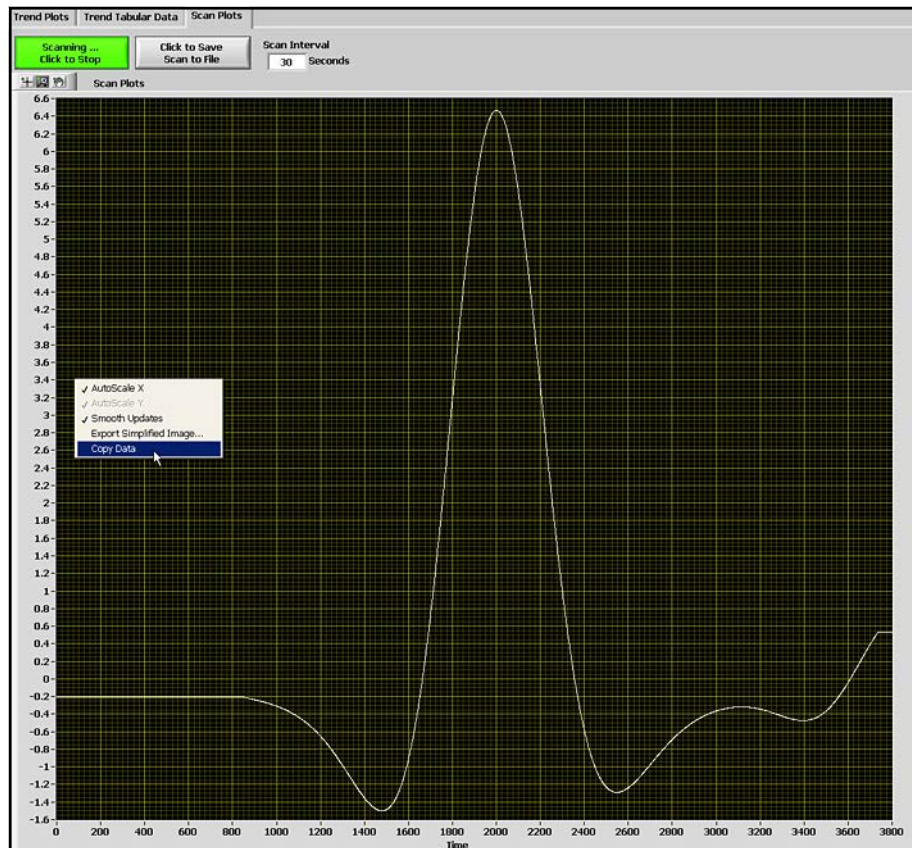
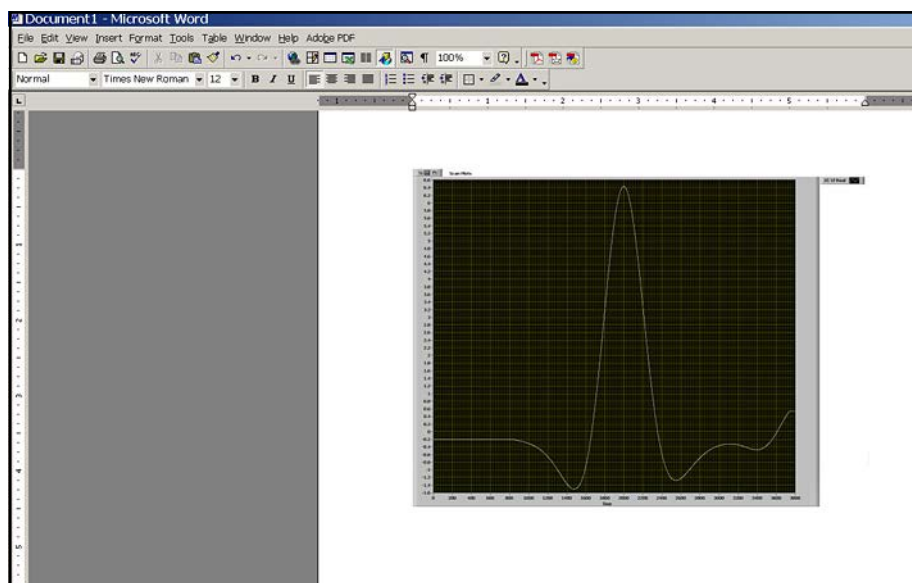

Figure 46: Copying a Trend Plot
Figure 47: Pasting a Trend Plot
4. Copying and Pasting a Trend Plot can be done from AuroraView (see *Figure 46* and *Figure 47* below) One way to do this quickly is to simply right click over the data area and choose Copy. In another application, like Microsoft Word, simply paste.